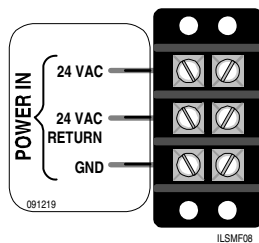

Figure 11. Transformer Connections
- Connect the secondary side of the transformer to the terminal strip in the left side of the ILS Controller using 3-conductor 16-gauge wire. See Figure 11.